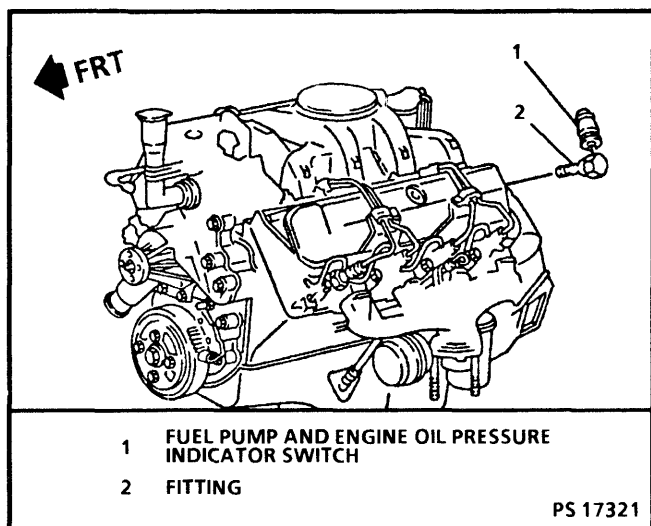

Figure 4-17 - Oil Pressure Switch
## OIL PRESSURE SWITCH Figure 4-17
- Intake manifold bolts to 42 N·m (32 lb. ft.). Use the tightening sequence shown in Figures 4-17 and 4-18.